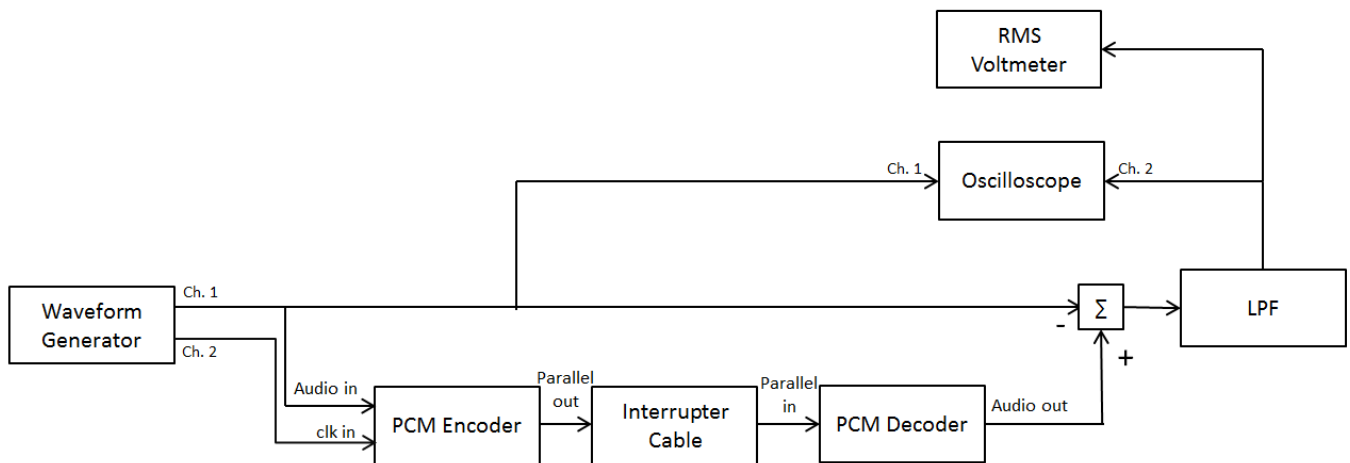

Fig. 3: SQNR measurement setup
- To measure the SQNR, apply a 10 Hz, 1 Vp-p (as set on the WG) sinusoid to the PCM encoder and Ch. 1 of the OS. Use the Subtractor to find the difference between the original signal and the decoded one as in Fig. 3 above. Pass the output of the Subtractor to an LPF with  $f_c = 200 \text{ KHz}$  and observe the final output on OS and measure its root-mean-square (RMS) value on RMS voltmeter. Minimize the RMS output by adjusting the two potentiometers when all bits passing through. One of the potentiometers is for a rough tuning and the other one is for a fine tuning.